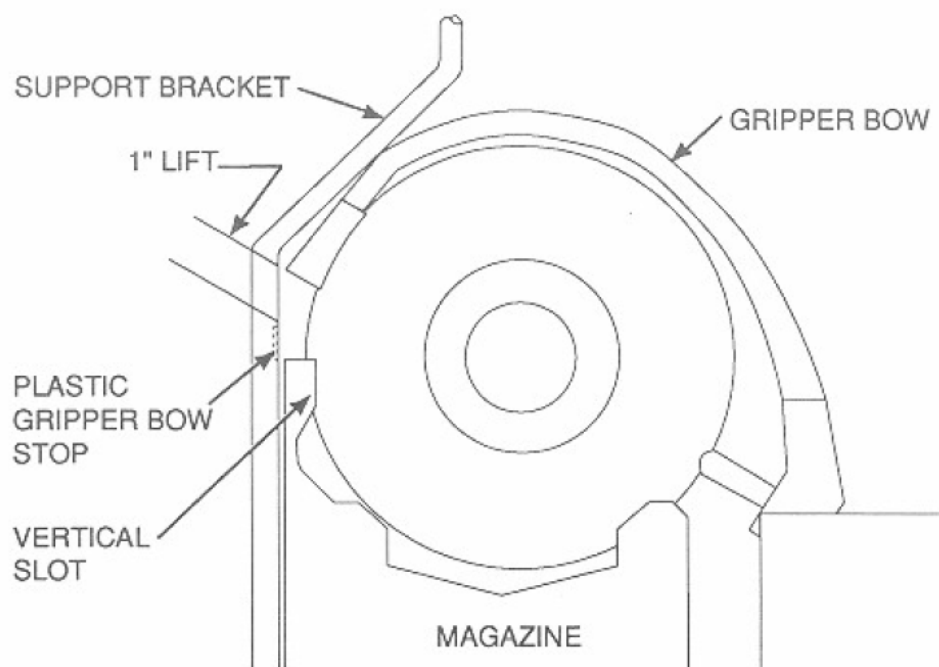

Figure 6-13. Magazine and Gripper Bow Stopping Position
2. Using a 5/32-inch Allen wrench in the end of transfer motor shaft, turn motor shaft clockwise until the gripper bow starts to lift the disc out of the magazine (see figure 6-13).